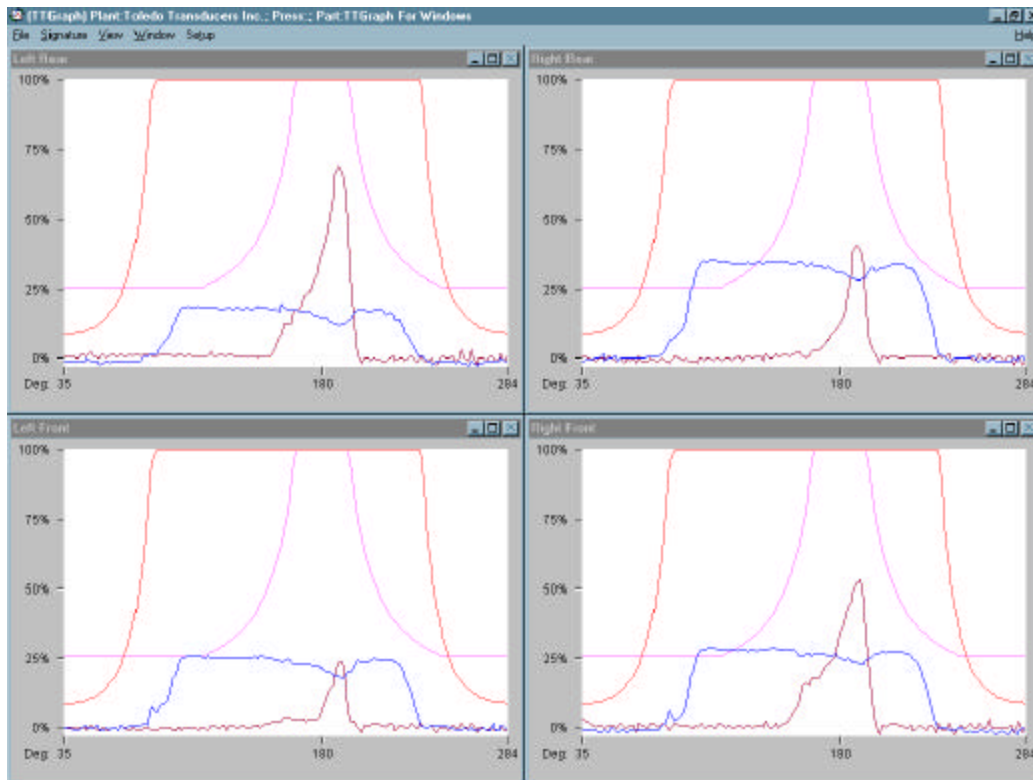

Figure 11: Signatures in Tile view.
1. Choose Window on the menu bar and then choose Tile to see all four corner signatures simultaneously. (See Fig 11).